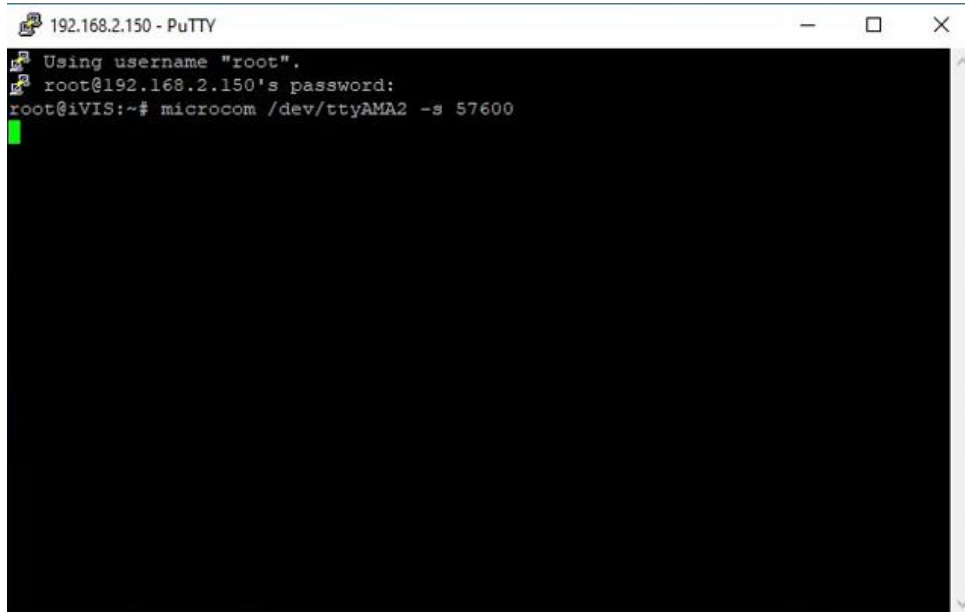

Figure 55: Logging of SSH window
- (f) After logging in, apply the command in the terminal **microcom /dev/ttyAMA2 -s 57600** as shown in Figure 55 (Note: The GPS connections at CSU unit are on Utility-2 port to verify the GPS Interface), Now type the content in SSH window after the above-mentioned command.